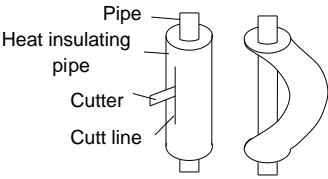

Fig. 4.11
- (2). Do not bend the pipes in an angle more than 90°.
- (3). When pipes are repeatedly bent or stretched, the material will harden, making it difficult to bend or stretch them any more. Do not bend or stretch the pipes more than three times.
- (4). When bending the pipe, do not bend it as is. The pipe will be collapsed. In this case, cut the heat insulating pipe with a sharp cutter as shown in Fig. 4.11, and bend it after exposing the pipe. After bending the pipe as you want, be sure to put